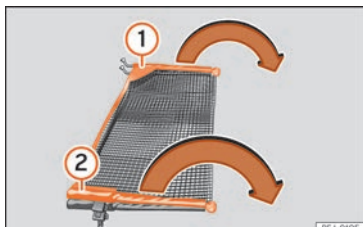

Fig. 166 Deploying the net partition.
Extend the cross rods »» **Fig. 166** ① and ② of the net in the direction of the arrows until it "clicks".